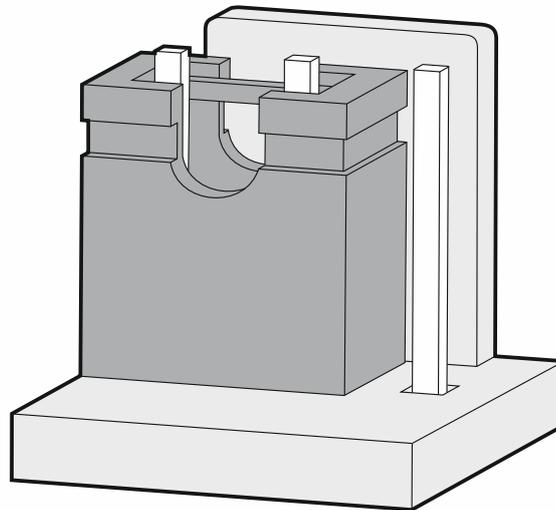

Fig. 23. The way of placing a jumper across the RS-232 TTL port pins.
2. Place a jumper across the RS-232 TTL port pins on the module electronics board, as shown in Fig. 23.